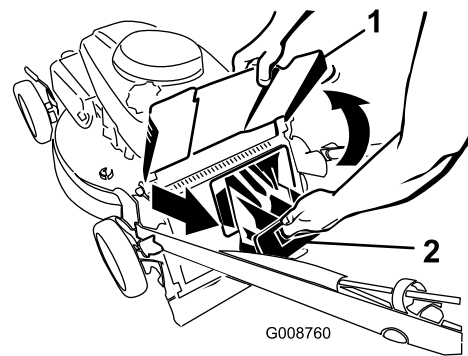

Figure 20
2. Raise and hold up the discharge deflector (Figure 20).